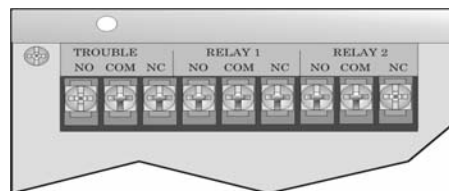

Figure 4-56 Location of Conventional Relay Circuits
1. Wire Relay 1 and/or Relay 2 as needed for your application. See Figure 4-56 for the location of the relay terminals.